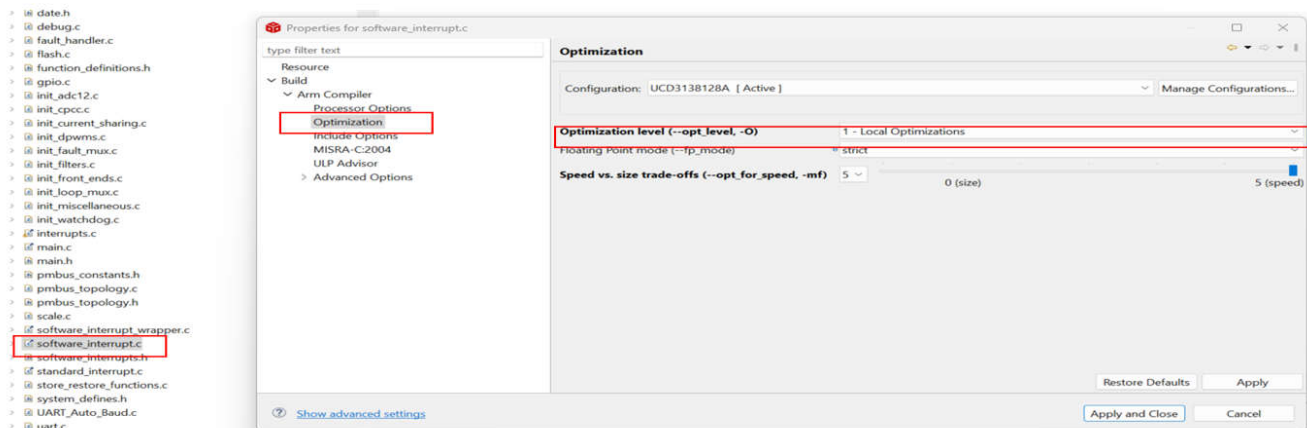

Figure 2-9. Select 1-Local Optimizations
- Another potential cause is that the file "software_interrupt.c" is configured to a *code optimization level* that is too aggressive (such as "2-Global Optimizations"), causing the *checksum* to not be erased successfully. At the "2-Global Optimizations" level, it is true that some UCD3138 devices can successfully erase the checksum. However, some other UCD3138 devices fail to erase their *checksum*. To resolve this issue, the file "software_interrupt.c" must be configured to a lower *optimization level*, such as "1-Local Optimizations". The configuration steps are shown in Figure 2-9. Open the *Project Explorer* pane, right-click "software_interrupt.c", go to *Properties -> Build -> ARM Compiler -> Optimization -> 1-Local Optimizations*.